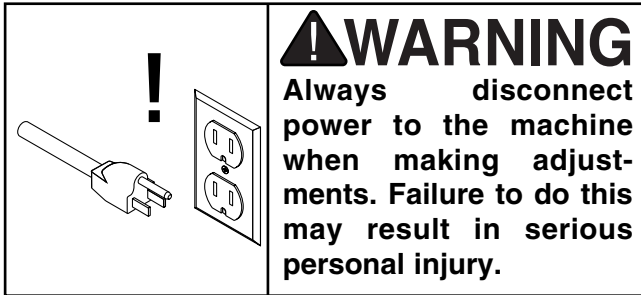

Figure 14. Vise nut.
- When the quick nut pointer is positioned to the right the vise jaw will move when the crank is turned for fine adjustment and clamping force (**Figure 14**).